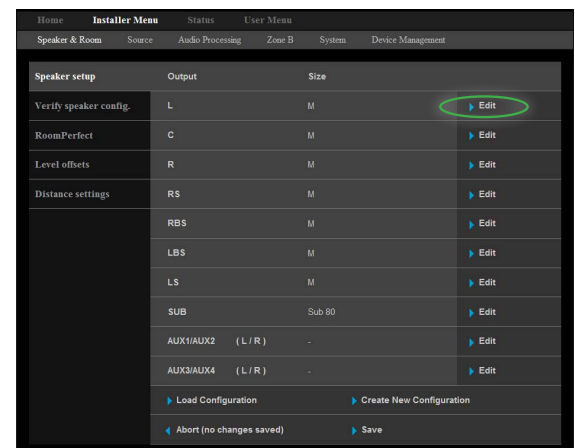

Figure 6
7. Select the "L" Output by clicking on "Edit" on the same line. Refer to figure 6.